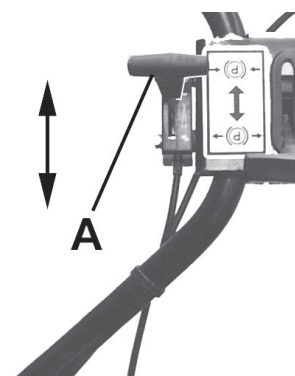

Fig. 6.2
6.2 COMANDO ACCELERATORE (A FIG. 6.2)